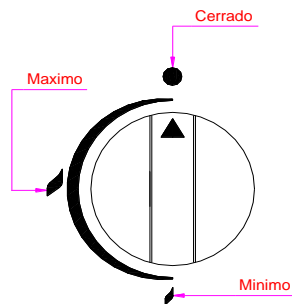

Fig. 3
- c) Press in the control of the required burner and make a quarter turn anti-clockwise until the "maximum" position is reached (**Fig. 3**).
- e) To set the control to "minimum", turn the control anticlockwise from the "maximum" position until reaching the "minimum" one, without pressing (**Fig. 3**).